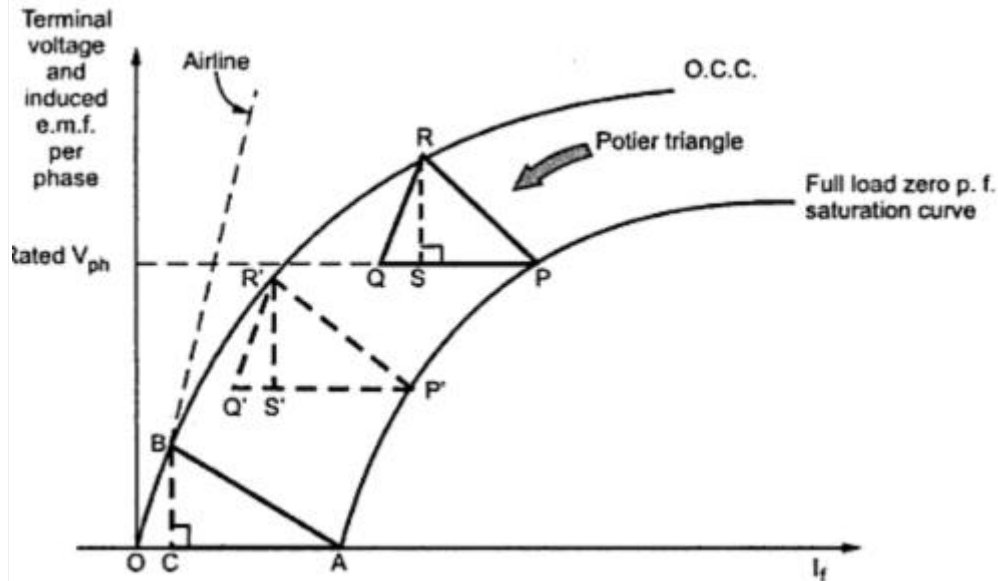

Fig. 2
- Plot open circuit characteristics on graph as shown in the Fig. 2. (3 M)